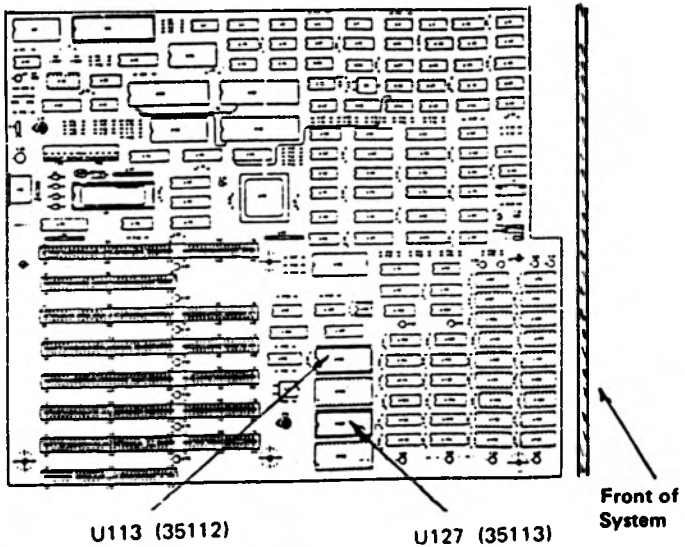

Figure 13
9. To ensure the correct operation of this drive it may be necessary to change the firmware in the PC. To check if this is necessary on your PC, look at the labels on the two integrated circuits (ICs) shown in Figure 13. If these labels have numbers lower than 35112 and 35113 then the ICs must be replaced with those supplied in this kit.
The IC with the number 35112 must be installed in the socket marked U113 the board. The IC with the number 35113 must be installed into the socket U127, see Figure 13.